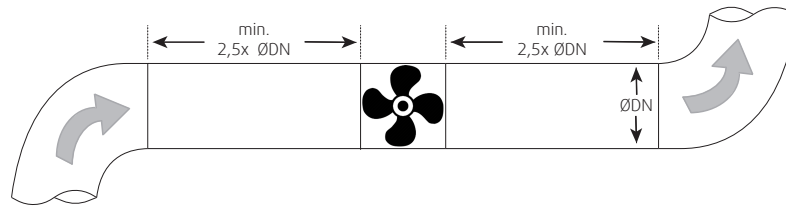

Fig. 1 Straight ducts
- ◆ Ensure a smooth and constant air flow to the device. Ensure a free exhaust. See Fig. 1 *Straight ducts*, page 16.